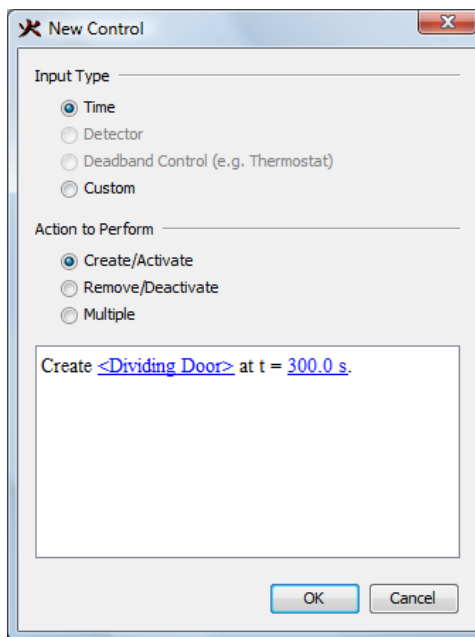

Figure 7.11. The control logic that opens the dividing door
7. For the **Input Type**, select **Time**. For the **Action to Perform**, select **Create/Activate**. In the text window, click on **TBEGIN** to change the time. In the pop-up box, type `300.0 s` and press ENTER on your keyboard. The control logic will now be displayed, Figure 7.11. Click **OK** to create the control.